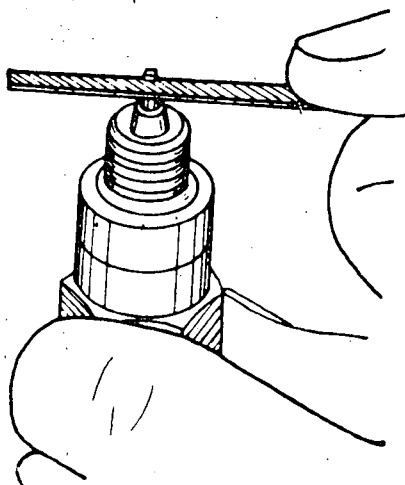

Fig. 4
- a) File the spark plug electrodes, if necessary (fig. 4).